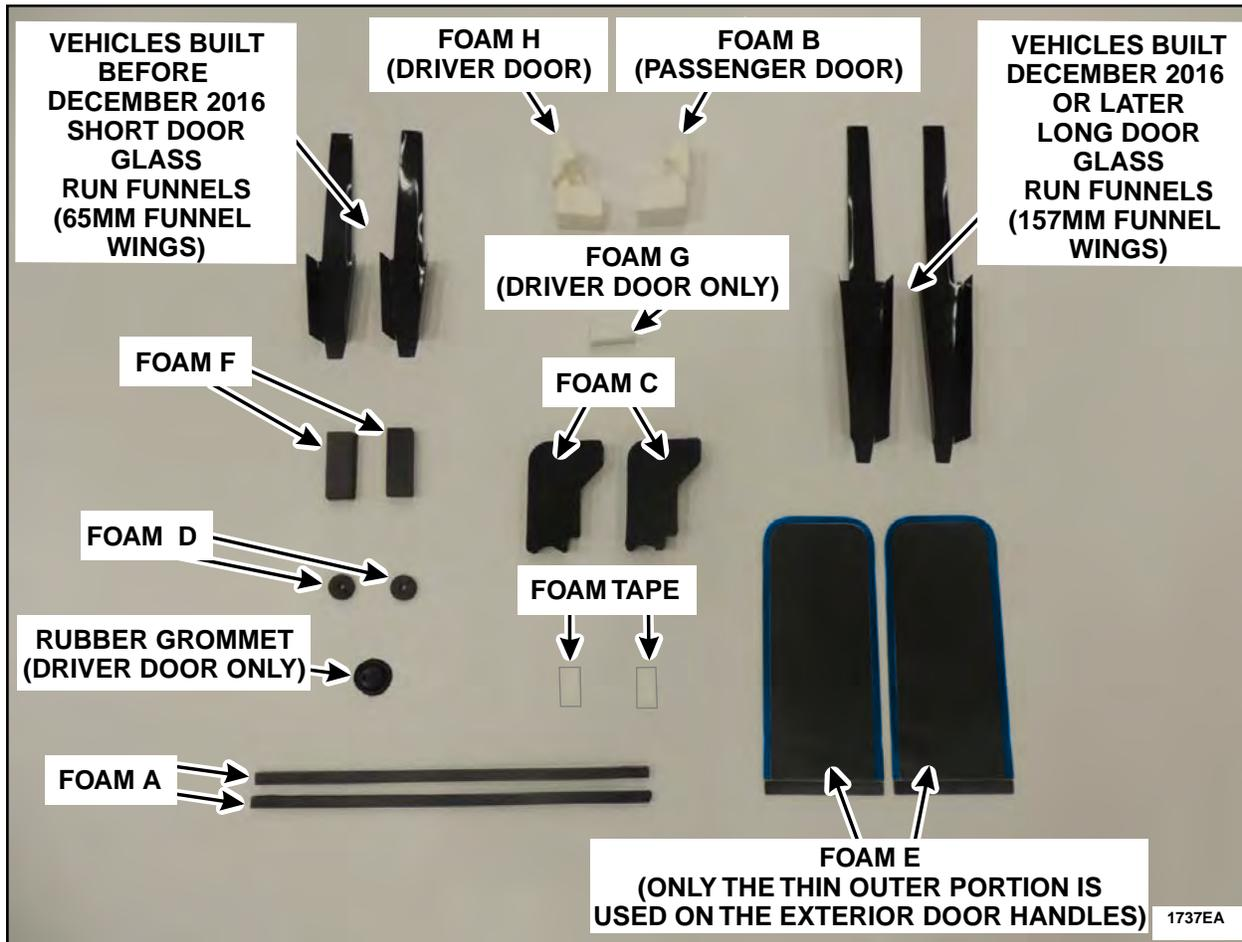

FIGURE 12
5. Clean the surface area where the water shield covered with isopropyl alcohol and a clean shop cloth. Use part of the center portion of Foam E (refer to Figure 12) or some locally acquired body tape to seal the holes the attaching clips were previously installed in. See Figure 3.
NOTE: The parts being installed in this procedure are not labeled. Refer to Figure 12 for component identification.